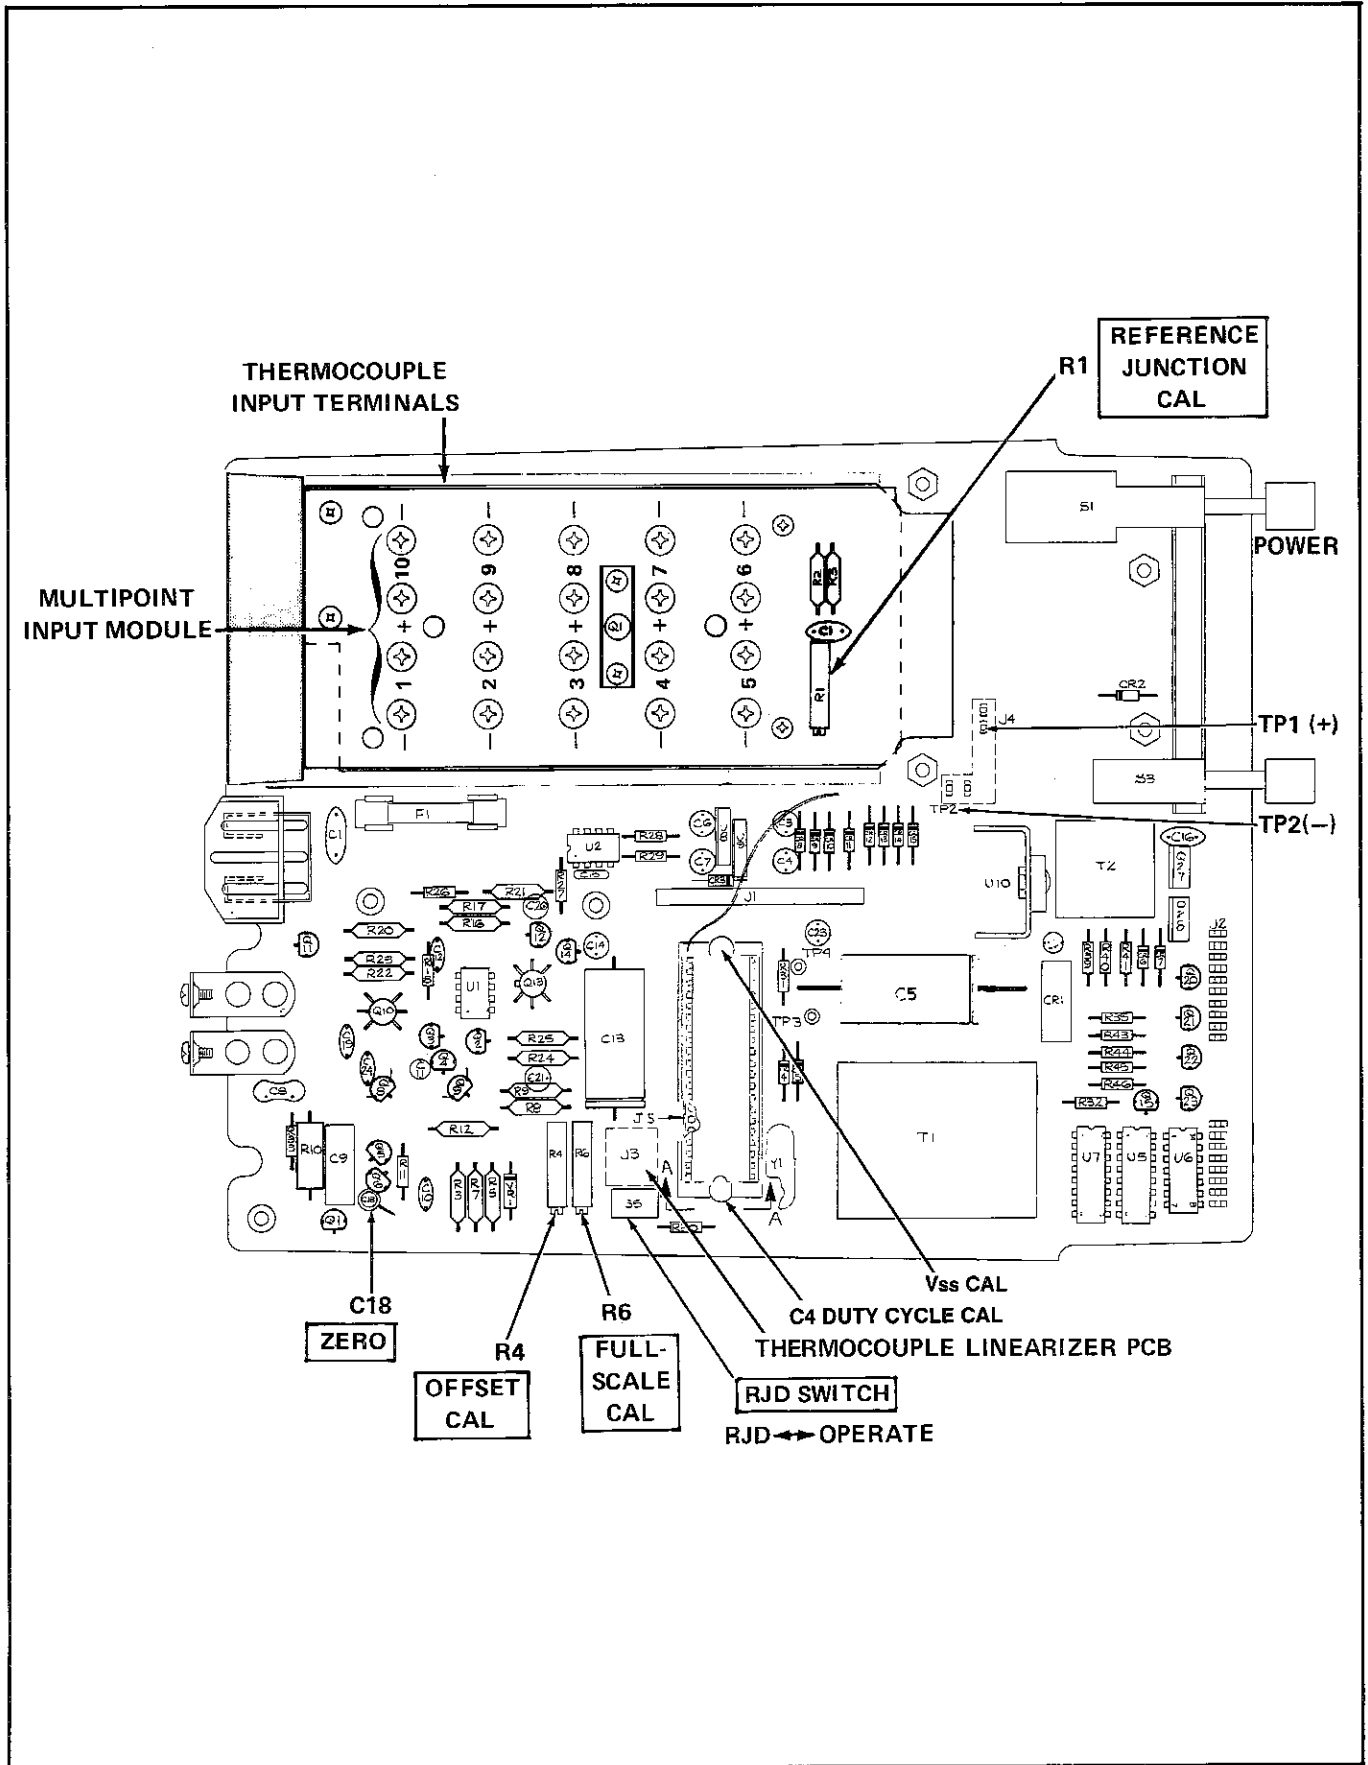

Figure 4-1. Test Point and Adjustment Locations
- b. Locate the RJD jumper on the main pcb (See Figure 4-1) and set it to the RJD position. (This defeats the reference-junction circuitry.)